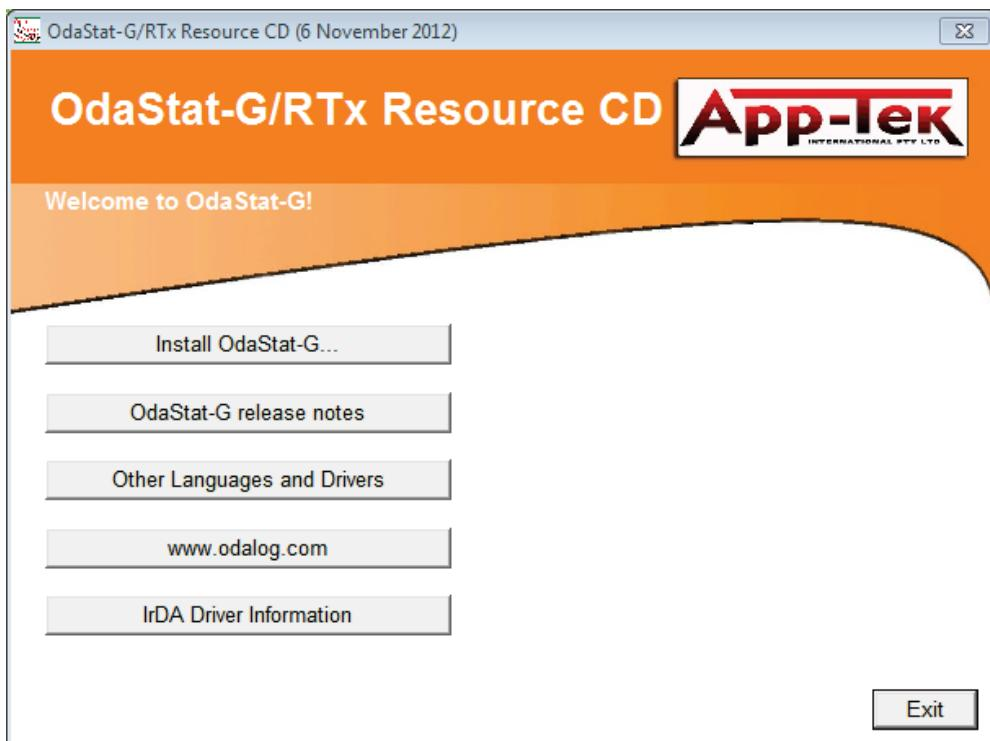

Figure 1: Auto Run Page
2. Windows should detect the CD and automatically open the file installation dialog box as shown in **Figure 1**. If this has occurred go to step 5, otherwise proceed to Step 3.
4. Double click on “DTAuto Run” file to open Installation dialog box as displayed in **Figure 1**.
4. Double click on  “DTAuto Run” file to open Installation dialog box as displayed in **Figure 1**.